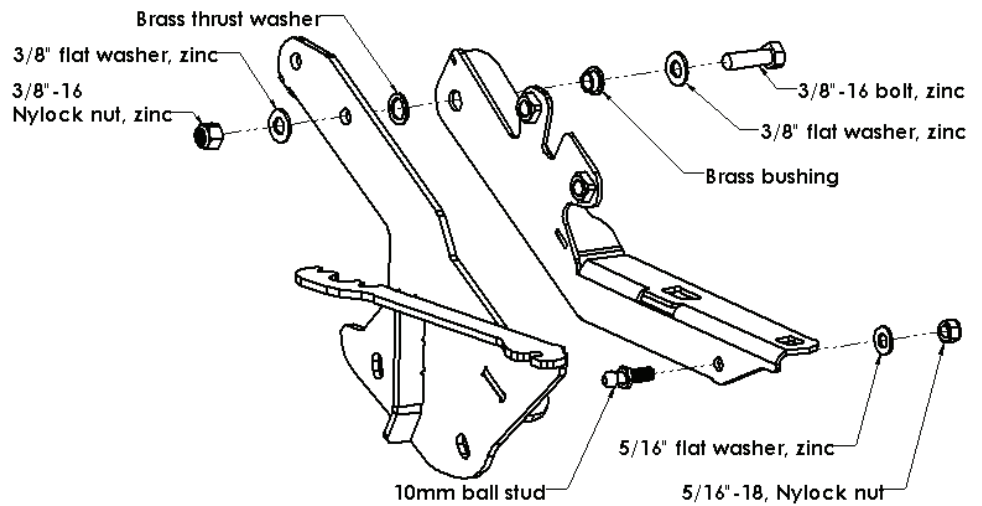

Figure 6 (Passenger Side)
1. Install the brass bushing into the upper hole in the upper bracket. (Figure 6)
2. Stack the 3/8"-16 Nylock nut on the flat washer and place over the brass bushing. Add the brass thrust washer, followed by the lower bracket, flat washer and 3/8"-16 hex cap screw. Tighten the Nylock nut making sure the thrust washer does not pop out of the brass bushing. (Figure 6)
3. Fully assemble and tighten the driver side hood hinge opposite of what is shown in Figure 6.
10. Using a 1/2" open ended wrench and 1/2" socket/ratchet, install the ball joint, flat washer and M8 Nylock nut from the provided hardware kit. Snap the OEM air spring to the ball stud on the upper bracket. (Figure 6, Figure 11)